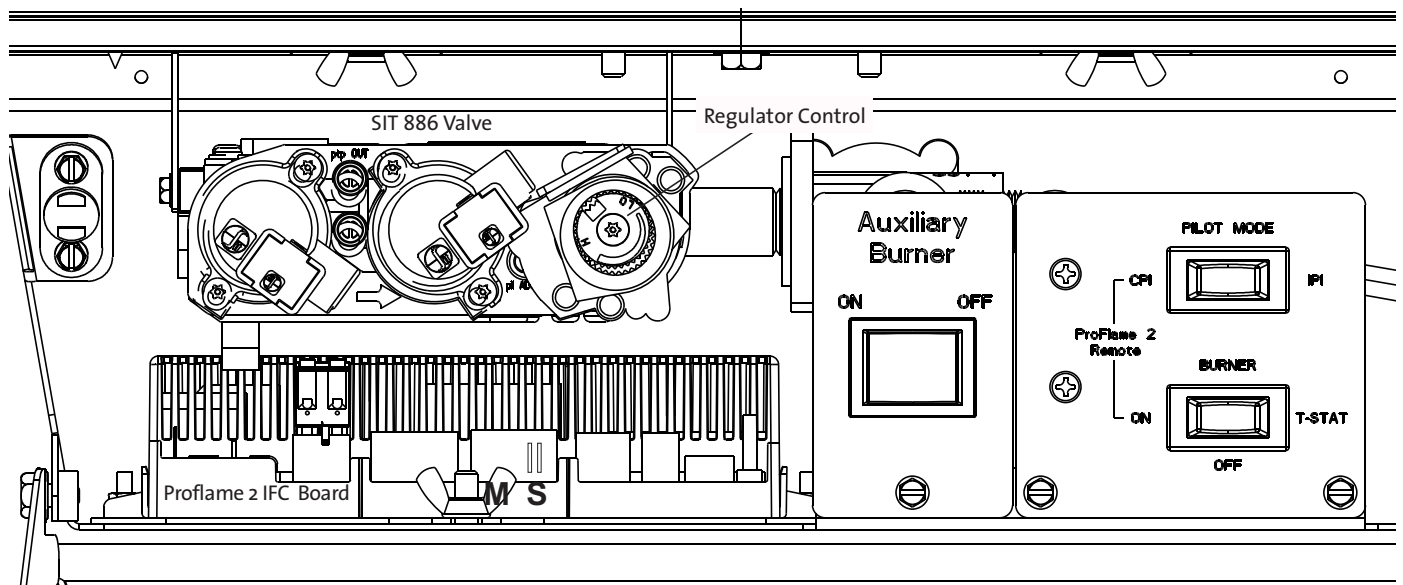

Figure 52. GF 500 DV IPI Controls Compartment.
1. Set the Burner switch to OFF. See fig. 52.
1. Press the Controls Access Door to release its magnetic catch and swing the panel down. Switch the Burner to OFF. See fig. 52, pg. 29.